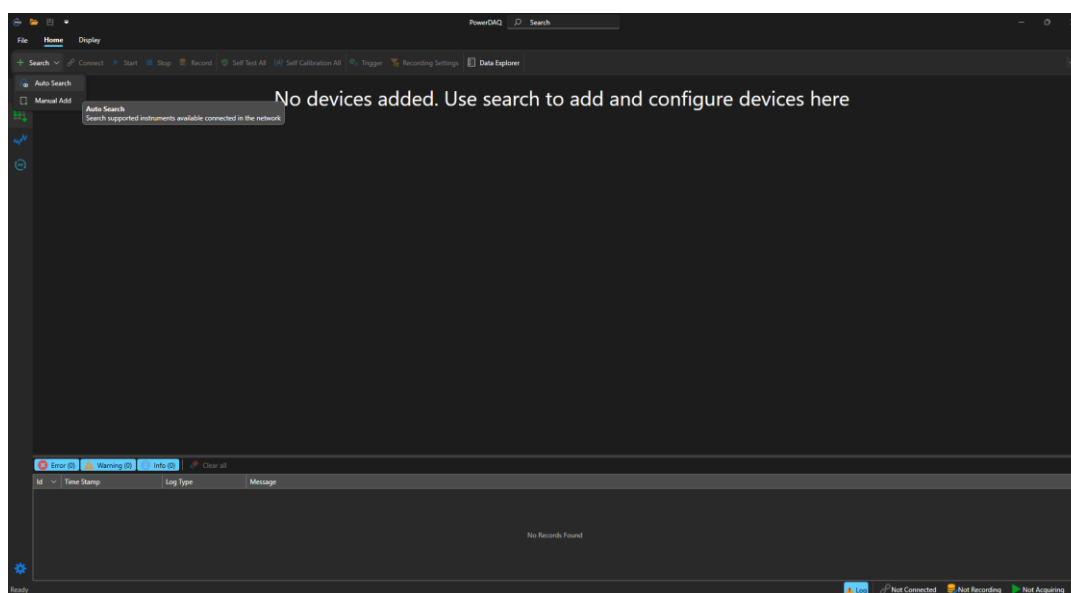

Figure 16. Auto Search Option
2. Select **Search -> Auto Search** to search the available instruments in the network. See Figure 16.